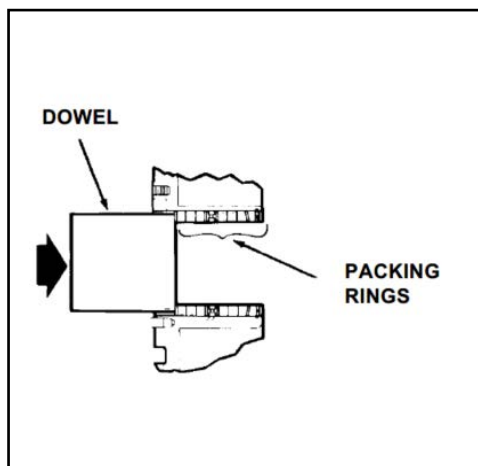

Figure 42 - Remove Dowel and Packing rings
4. Turn body over, remove gland and use a dowel and soft hammer to drive packing rings from body as shown in Figure 42.